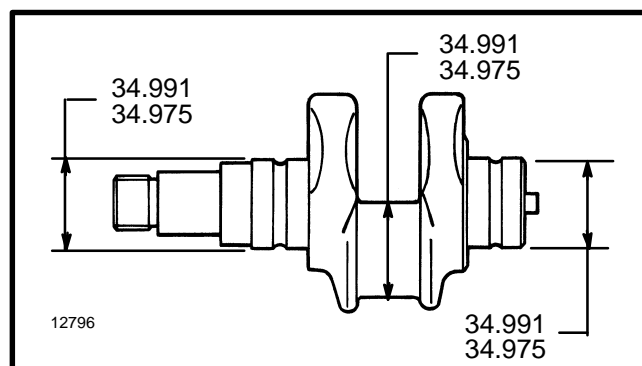

FIGURE 2. CRANKSHAFT DIMENSIONS
Measure the diameters of the crankshaft (10) at the positions for the connecting rod bearing (43) and the crankshaft bushings (5 and 11). If the dimensions are not within the permitted tolerances shown in FIGURE 2., install a new crankshaft.